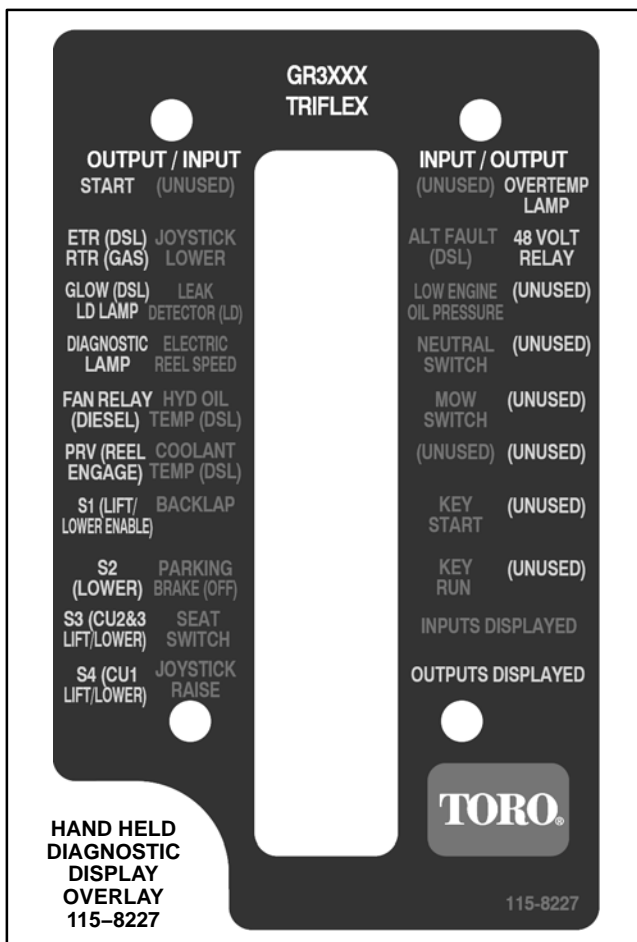

Figure 27
3. Connect the Hand Held Diagnostic Display connector to the wire harness connector. Make sure correct overlay decal is positioned on the Diagnostic Display (Fig. 27).